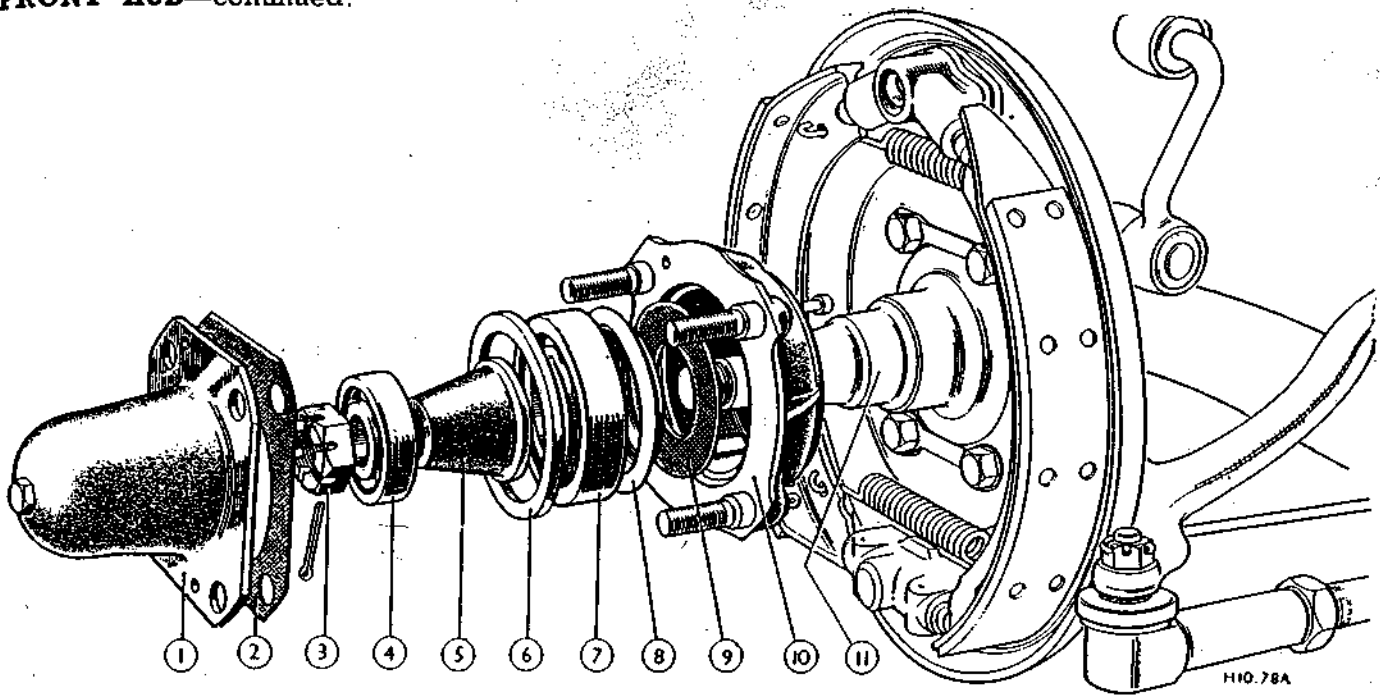

Fig. 7.
11. Applying a spanner or tommy bar, screw up the extractor bolt. The hub will be withdrawn complete with outer and inner bearings, distance piece and washers. Fig. 7 will make clear the actual order of these parts when assembled.